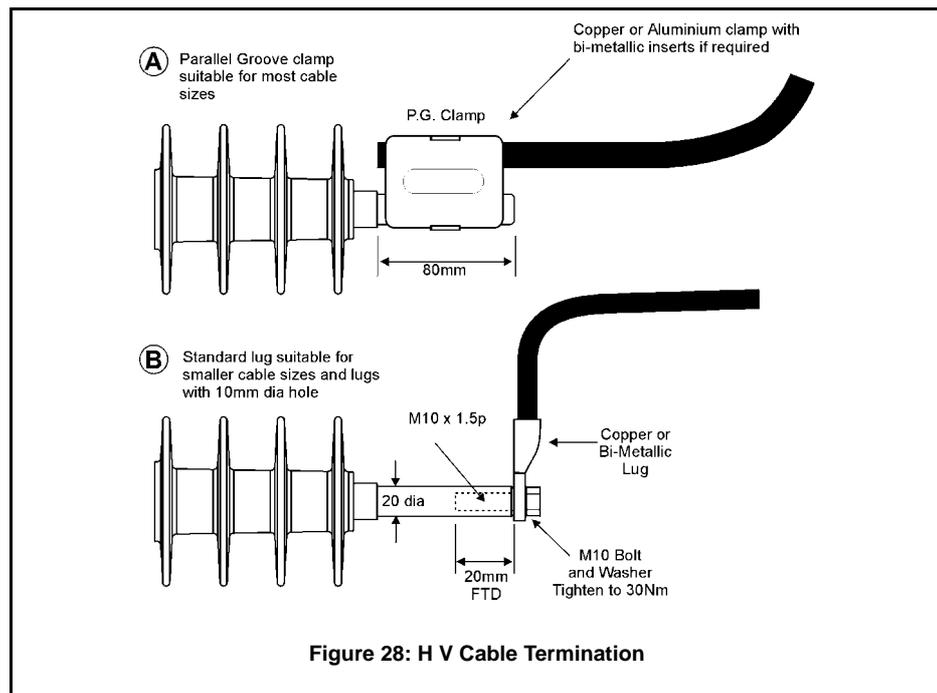

Figure 28: H V Cable Termination
- Two 20mm galvanised or stainless steel bolts with washers and nuts etc. to bolt mounting bracket to power pole. See Figure 28 (page 78). If the optional pole clamp has been purchased this is not required.